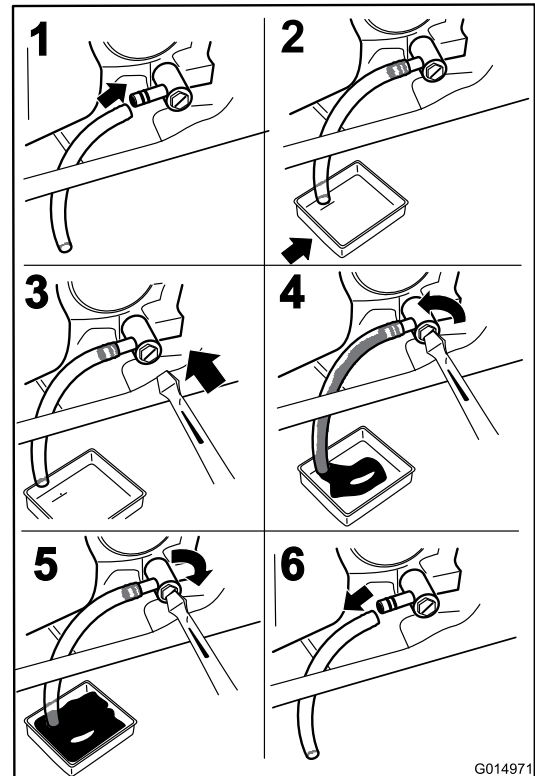

Figure 34
3. Stop the engine, remove the key, and wait for all moving parts to stop before leaving the operating position (Figure 34).